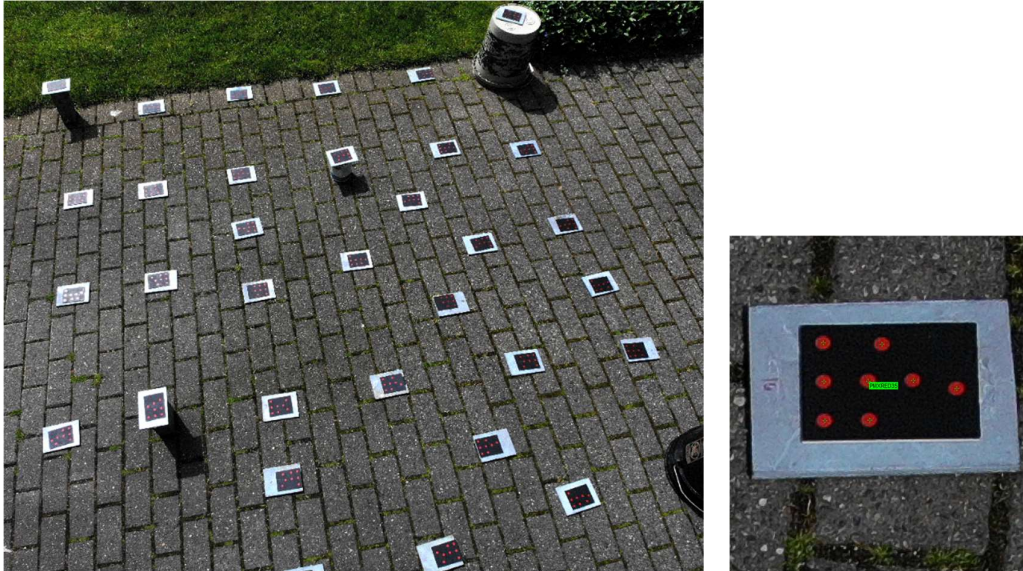

Figure 1
1) Target Array: Lay down an array of 40 or so Photometrix codes, either red codes (preferable) or printable white-on-black codes, such that the area covered is around 2.5 x 2.5 m (8 x 8 ft) as indicated in Figure 1 below. The following aspects are important:
2) Photography: The images of the codes will be read automatically by *iWitnessPRO*, so it is imperative that the photography is captured such that the codes are high contrast and in clear focus, as indicated in Figure 1 (recall that the focal length needs to be fixed for all images, generally at infinity focus for subsequent drone mapping projects). It is important to conduct some initial test photography to ensure satisfactory image exposure is being obtained. Helpful hints include: